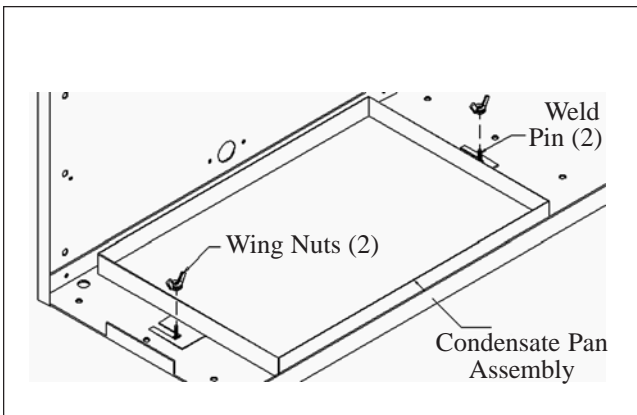

FIGURE 1
- D) P/N 72539 3/8" Hose Clamp (2)
- E) P/N 50606 #8 x 1/2" screws (2)
Step 5. Loosen the two wing nuts located in the heater base. See Figure 1.
Step 6. Slide the condensate pan into the bottom of the heater with slots in tabs onto the weld studs and under the wing nuts. Use care to not rip the insulation in bottom of heater. Tighten the wing nuts to secure condensate pan. See Figure 1.